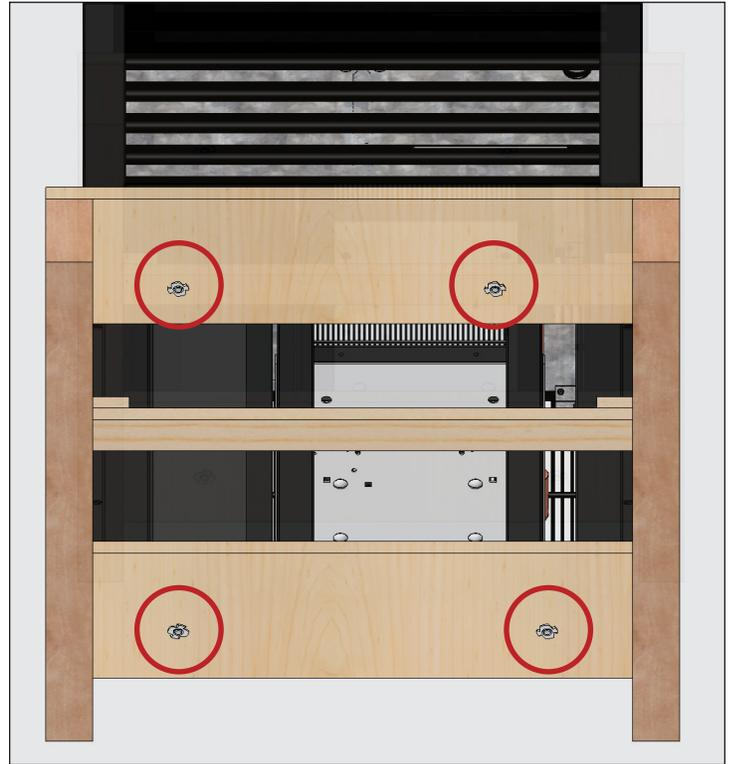

Fig. 4. Shipping bolt locations.
2. With an adjustable wrench, remove all shipping bolts securing the wood skid to the bottom of the appliance. See fig. 4.